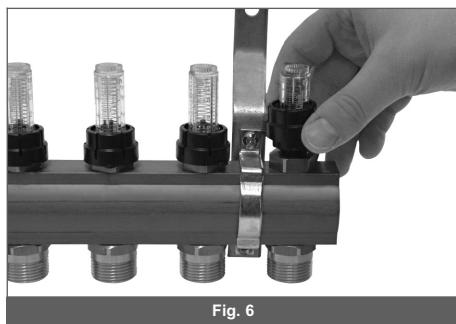

Fig. 6
1. Take off plastic cover (fixed by "snap fastener") - Fig. 6.